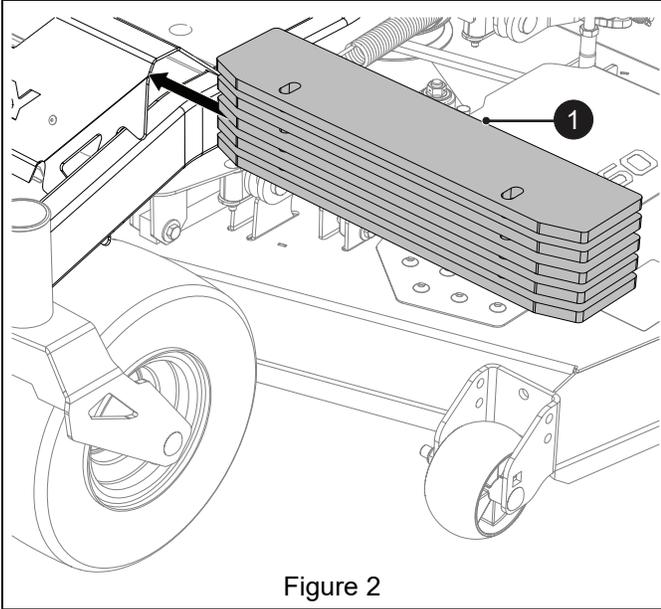

Figure 2
4. Insert five counter weights (item 1) one at a time into left footrest opening. Plates are positioned with angled corners facing forward. See Figure 2.